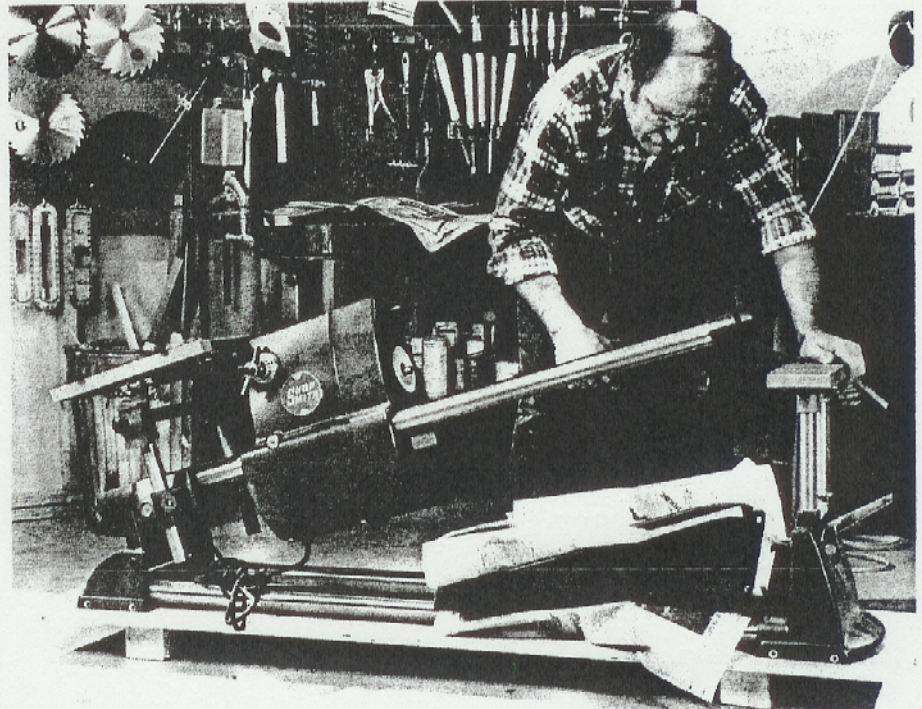

Figure 4. Wrap the legs in newspaper and pack them in between the way tubes and bench tubes.
3. Pack the legs. Wrap the legs in newspaper. Loosen the headrest lock, raise the Mark V, and place the legs in between the way tubes and bench tubes. (See Figure 4.) Lower the Mark V and **remember to secure the headrest lock!**